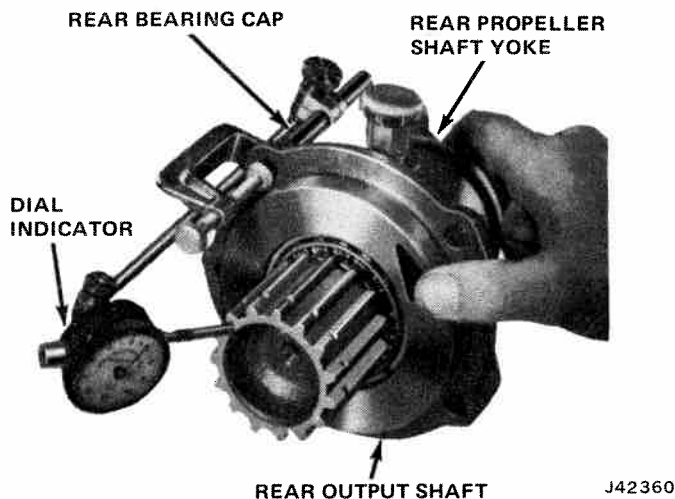

Fig. 8-11 Checking Rear Output Shaft Bearing Adjustment
- (1) If removed, install a new speedometer driven pinion bushing using Bushing Installer Tool W-133.
- (2) Tap front cone and roller assembly onto output shaft. Slide speedometer gear and original spacers onto output shaft.
- (3) Insert output shaft through housing. Place front end of output shaft on a firm surface.
- (4) Place rear cone and roller assembly on output shaft.
- (5) Tap bearing onto shaft to seat against inner spacers.
- (6) Use Driver Tool W-143 to install yoke seal. Install felt seal, propeller shaft yoke, flat washer, and retaining nut. Tighten nut (refer to Torque Specifications).
- (7) Measure rear bearing cap assembly end play (fig. 8-11). End play should be 0.001 inch to 0.003 inch. If end play is incorrect, it can be corrected by installing or removing shims adjacent to speedometer drive gear.